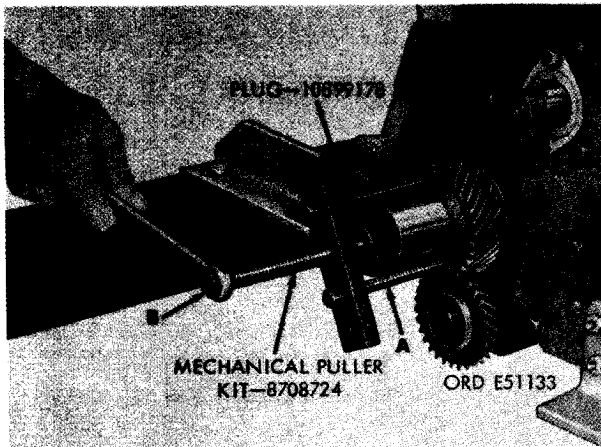

FIGURE 292. REMOVING CRANKSHAFT GEAR USING MECHANICAL PULLER KIT - 8708724.
- (3) Figure 292. (A) Install 3/8-16 puller screws of mechanical puller kit - 8708724 into puller screw holes in crankshaft gear. Insert plug - 10899178 against crankshaft and run jack screw of puller against plug. (B) Pull crankshaft gear from end of crankshaft.